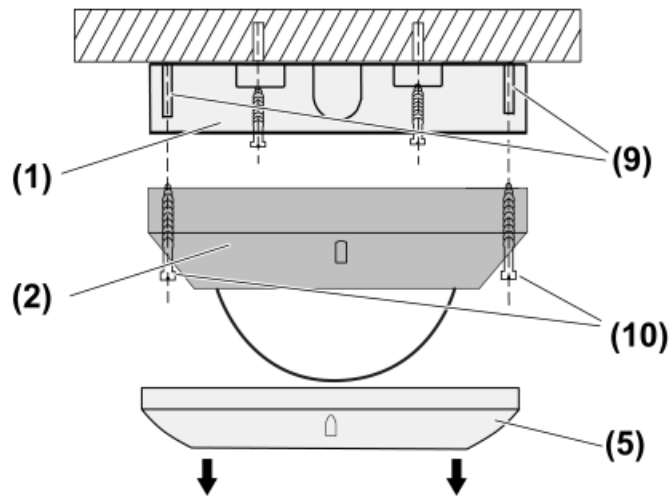

Figure 7: Mounting
1. (1) Connection box
2. (2) Sensor cover
3. (5) Decor ring
4. (9) Fastening pins
5. (10) Screws
- Pull off decor ring (5) (see figure 7).
- Loosen screws (10) (see figure 7).
- **INFO:** In the case of single devices, a 2-wire extension can be used as an alternative to the push-button (14).
- Screw the sensor cover (2) to the connection box (1) with screws (10) and mounting pins (9) (see Figure 7).